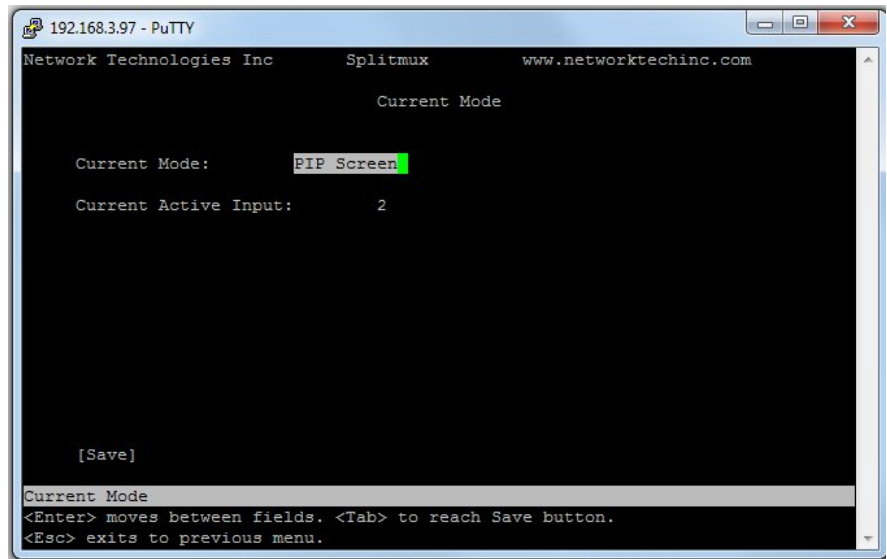

Figure 38- Text Menu-Current Mode Selection
- To move from menu list to action key (such as “Save” in Figure 38), press <Tab>.